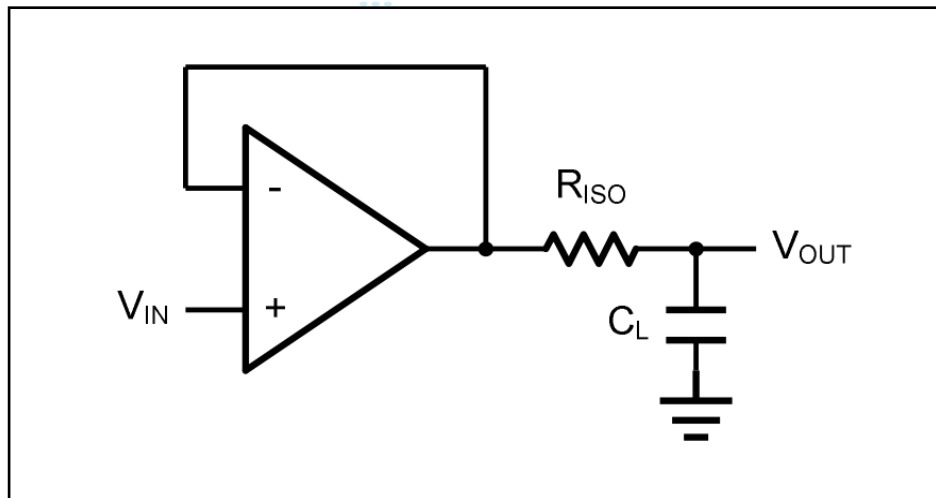

Figure 1. Indirectly Driving a Capacitive Load Using Isolation Resistor
Capacitive Load Tolerance: The P60X family is optimized for bandwidth and speed, not for driving capacitive loads. Output capacitance will create a pole in the amplifier's feedback path, leading to excessive peaking and potential oscillation. If dealing with load capacitance is a requirement of the application, the two strategies to consider are (1) using a small resistor in series with the amplifier's output and the load capacitance and (2) reducing the bandwidth of the amplifier's feedback loop by increasing the overall noise gain. Figure 1. shows a unity gain follower using the series resistor strategy. The resistor isolates the output from the capacitance and, more importantly, creates a zero in the feedback path that compensates for the pole created by the output capacitance.